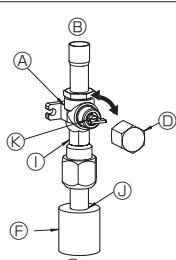

Fig. 4-5
- (1) Gas side of A24-A42 (Fig. 4-5)
- ① Remove the cap, pull the handle toward you and rotate 1/4 turn in a counter-clockwise direction to open.
- ② Make sure that the stop valve is open completely, push in the handle and rotate the cap back to its original position.